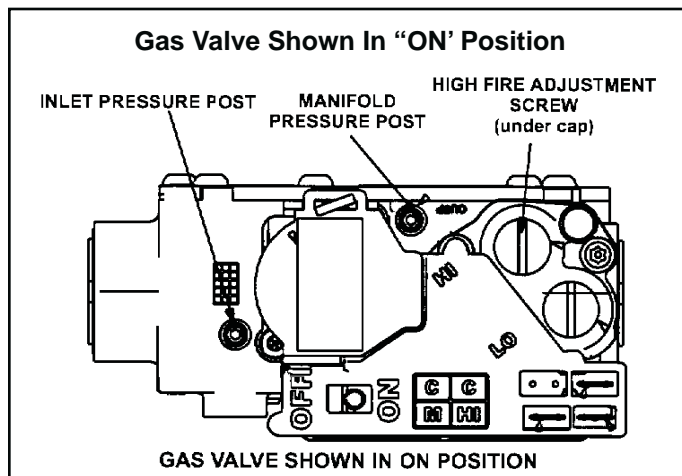

Figure 63.
6. Move gas valve switch to OFF. See Figure 63.
8. Move gas valve switch to ON. See Figure 63.
- A manifold pressure post located on the gas valve provides access to the manifold pressure. See Figure 63. Back out the 3/32 Hex screw one turn, connect a piece of 5/16" tubing and connect to a manometer to
- Repeat on high fire and compare to value given in Table 16. If necessary, make adjustments. Figure 63 shows location of high fire and low fire adjustment screws.